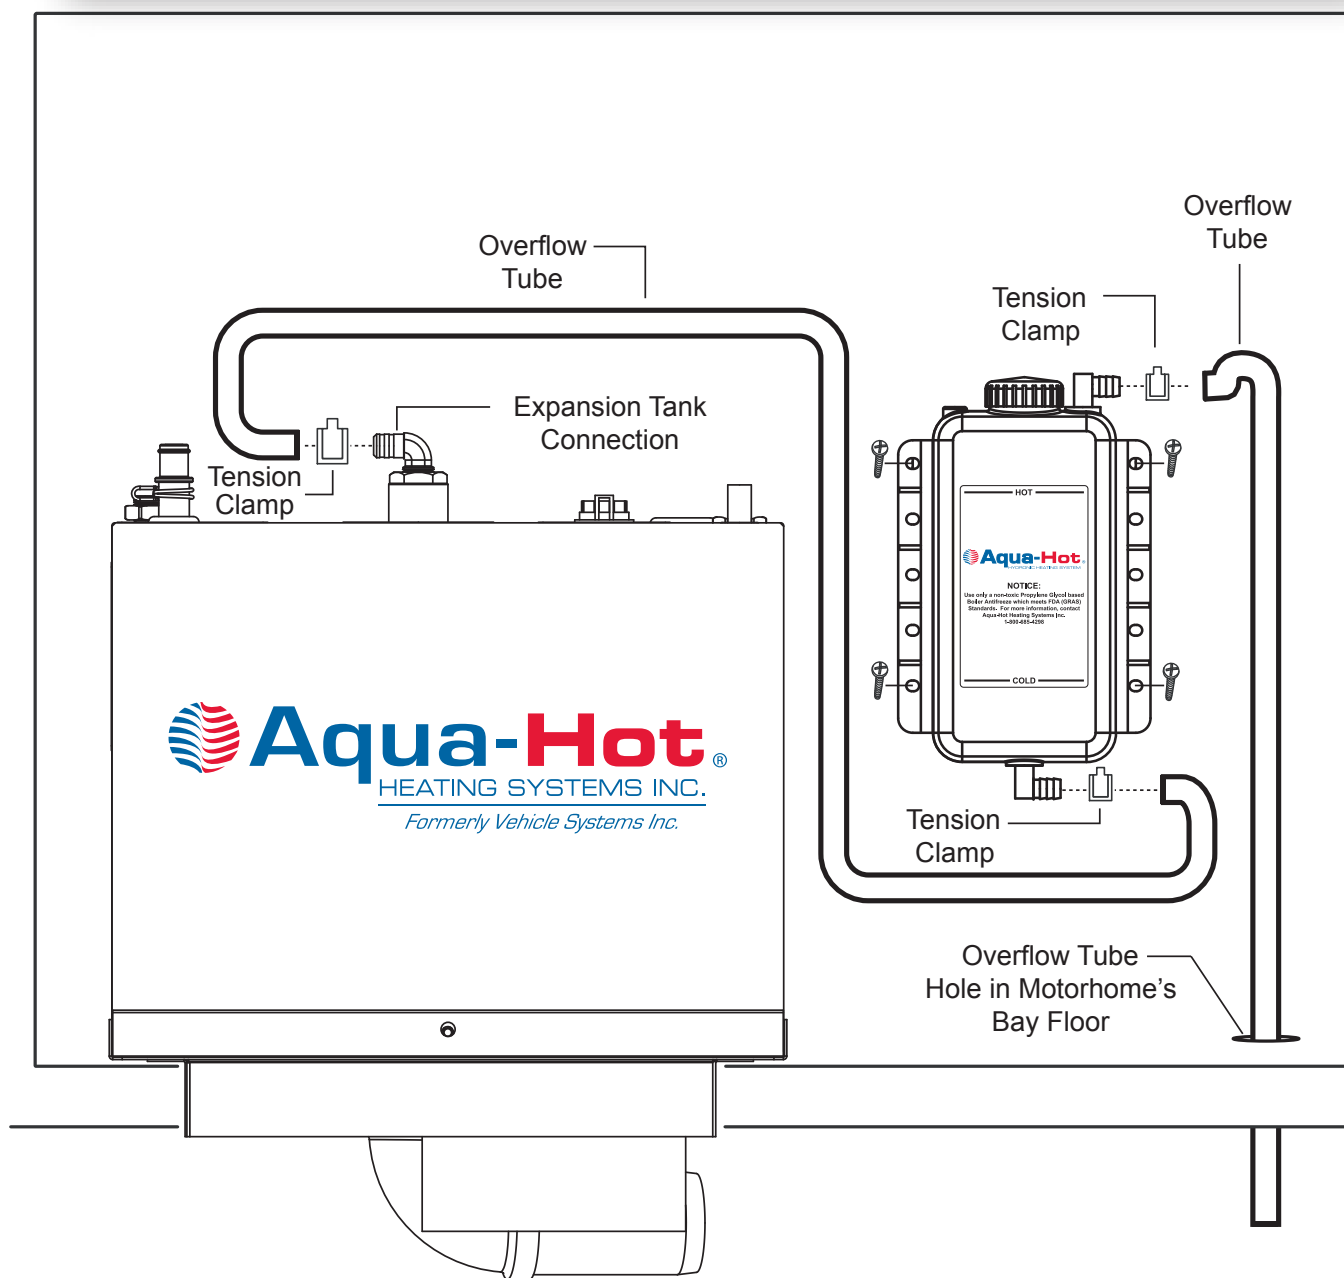

Figure 8
NOTE: The top of the Expansion Tank must always be mounted at least 4 inches higher than the Aqua-Hot's cabinet; reference Figure 8.
- Mount the Expansion Tank as illustrated in Figure 8.
- Connect and clamp the Overflow Tubing from the Expansion Tank to the Aqua-Hot's Expansion Tank Connection; reference Figure 8.
- Drill a hole in the Bay floor and connect (secure with a clamp) a long enough piece of overflow Tubing so that it can be connected to the top of the Expansion Tank and extend through the Bay floor; reference Figure 8.